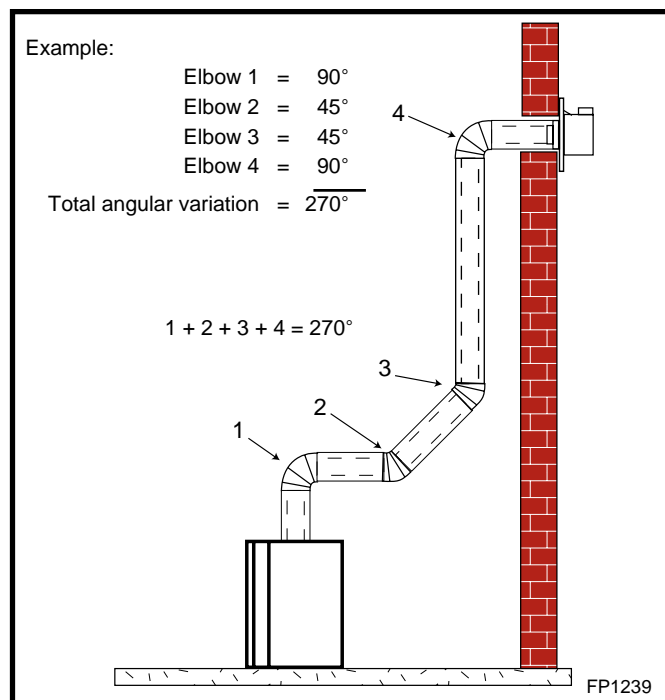

Fig. 16 Maximum number of elbow degrees.
- The maximum number of 45° elbows permitted per side wall installation is two (2). These elbows can be installed in either the vertical or horizontal run.
- The maximum number of elbow degrees in a system is 270°. (Fig. 16)